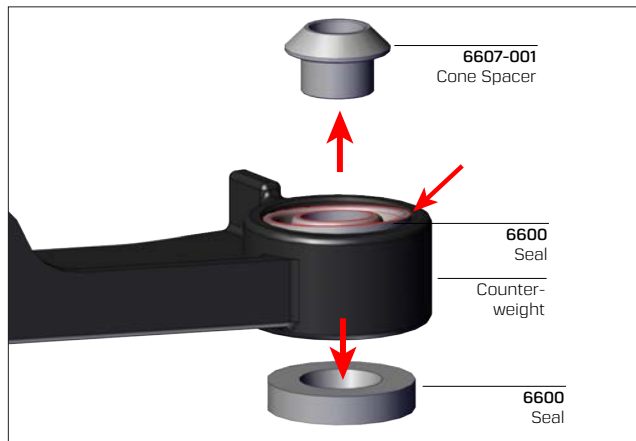

Fig. 5.
- As shown in Fig. 5, remove **#6607-001** cone spacer from counterweight.